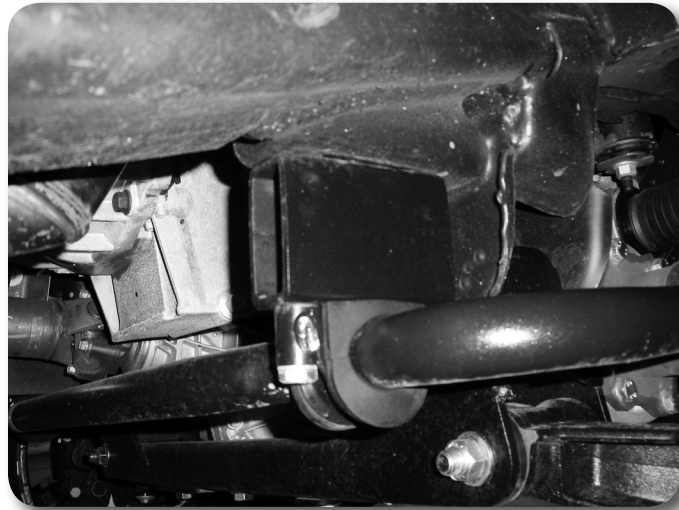

Figure 39
72. Attach the front sway bar to the original mounts in the stock orientation in conjunction with the provided drop brackets and 10mm x 130mm bolts/washers for 6.5" kits or 10mm x 80mm bolts for 4.5" kits. Use Loctite on the bolt threads and torque to 45 ft-lbs **Figure 39**.